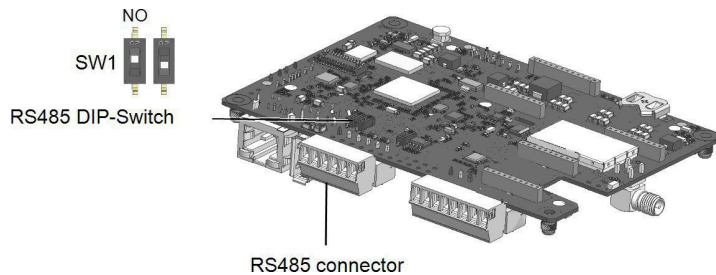

Figure 33: RS485 termination DIP-switch (SW1)
- For creating an RS485 bus - connect all B, A and G pins in all inverters. Figure 33 shows this connection schema: